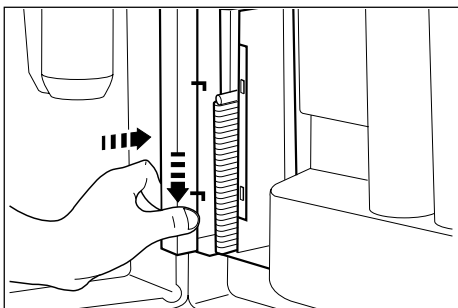

Fig. 25
- Remove the stirrer container cover (21) and the metal weight.
- Fill with perfectly aligned stirrers, replace the weight and the cover (Fig. 25)